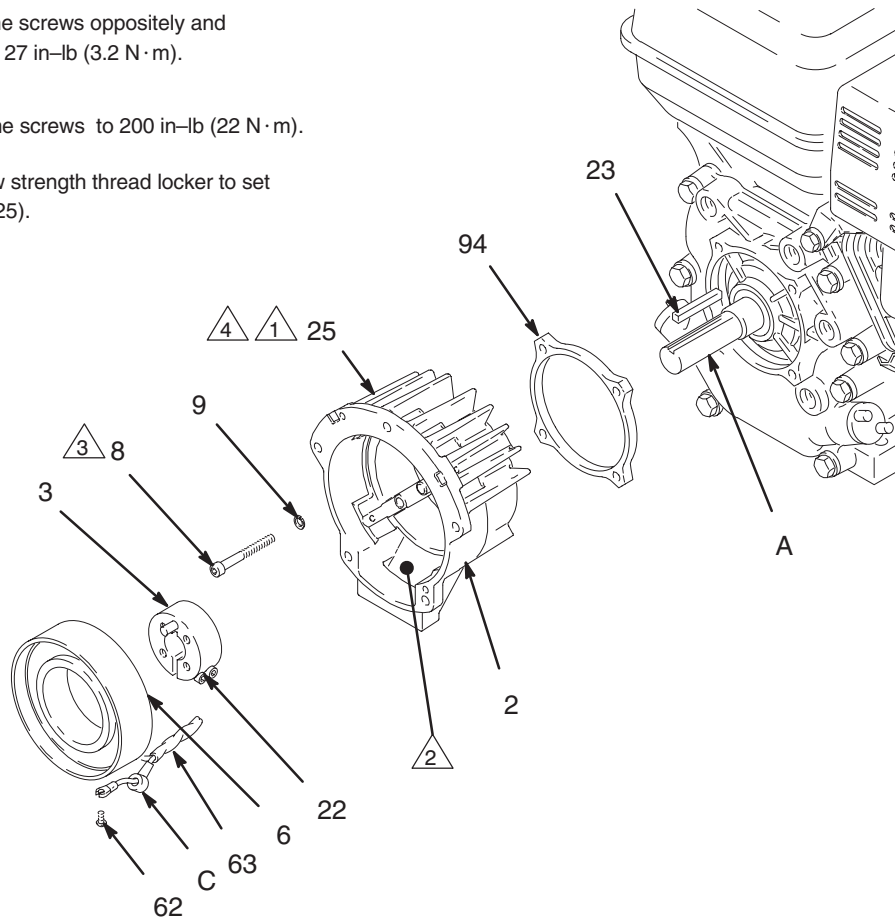
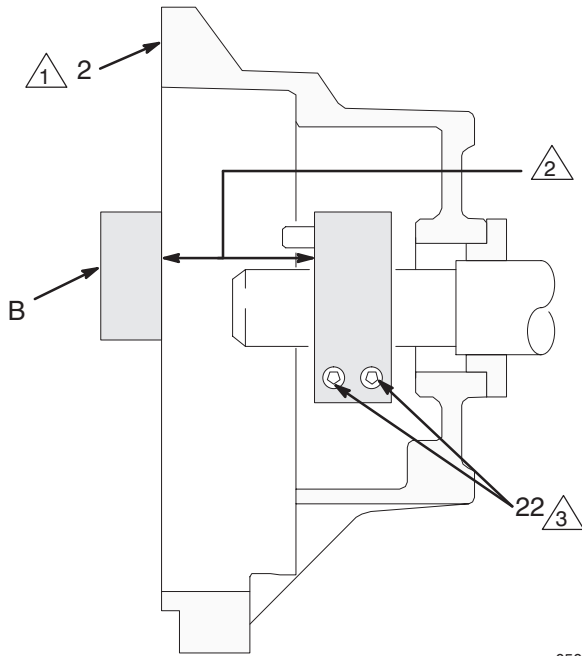

Fig. 20
Fig. 21
1. Install spacer (94) between the engine and the clutch housing (2).
2. Install the **clutch housing (2)**, capscrews (8) and lockwashers (9) on the engine.
3. Install the engine shaft **key (23)**. See Fig. 20.
4. Press the **clamp (3)** onto the engine shaft (A). Maintain the 1.084 inch  $\pm$  0.01 (27.53  $\pm$  0.25 mm) dimension shown in Fig. 21.
- To check the dimension, place a rigid, straight steel bar (B) across the face of the clutch housing (2). Use an accurate measuring device to measure the distance between the bar and the face of the clamp. Adjust the clamp as necessary. Torque the two screws (22) to 120 in-lb (14 N.m).
5. Connect the wires of the harness (63) with the screws (62) in both places on the field (wires can be attached to either connection). Pull the plastic caps (C) up and snap them over the screws. Install the field in the clutch housing. Push the wire harness through the slot in the clutch housing. Align the setscrew holes in the field and the clutch housing (2). Use a feeler gage to center the field (6) by measuring the gap between the four housing bosses where the set screws pass through the housing and the field. Adjust the set screws to provide even clearance. Then tighten the set screws (25) oppositely and evenly, to 27 in-lb (3.2 N.m). See Fig. 20.
- 4 ⚠ Apply low strength thread locker to set screws (25).